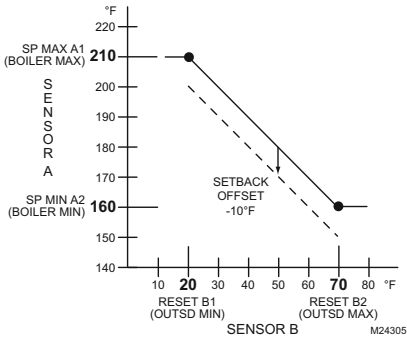
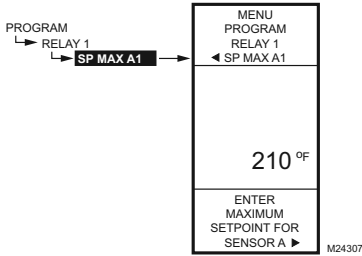

Fig. 25. Reset Curve for First Output with Setback Offset.
Fig. 28. Program - Sensor A Max. Setpoint.
To program an output for Reset, refer to the values as shown in the examples below and in Fig. 25 on page 13. Choose your own appropriate values for Sensor A maximum and minimum and Sensor B maximum and minimum.
**Reset Example:** (Refer to Fig. 25 on page 13)
**Setback (optional) Example:** (Refer to Fig. 25 on page 13)
The remainder of this section, beginning with “1.2. Entering Program Mode”, describes the individual parameters for configuring outputs with Reset. For your reference, the following Reset programming procedure uses the values in Fig. 25.
The Reset settings (Figures 28 through 31 on page 14) are programmed for the first output and these settings apply to all outputs that are configured for Reset. See Fig. 25 for the reset curve values used in the following section.